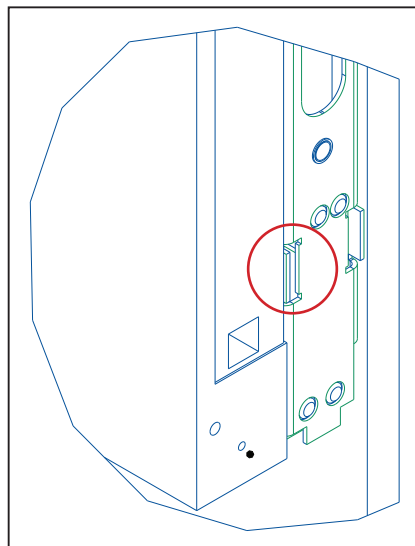

Figure 23: Ensure Alignment Tabs Do Not Protrude Past Display Edge
5. Push the panels together and verify the far-left and far-right frame alignment tabs are not protruding beyond the display limits. Refer to **Figure 23**. Shift the panels left or right as needed.